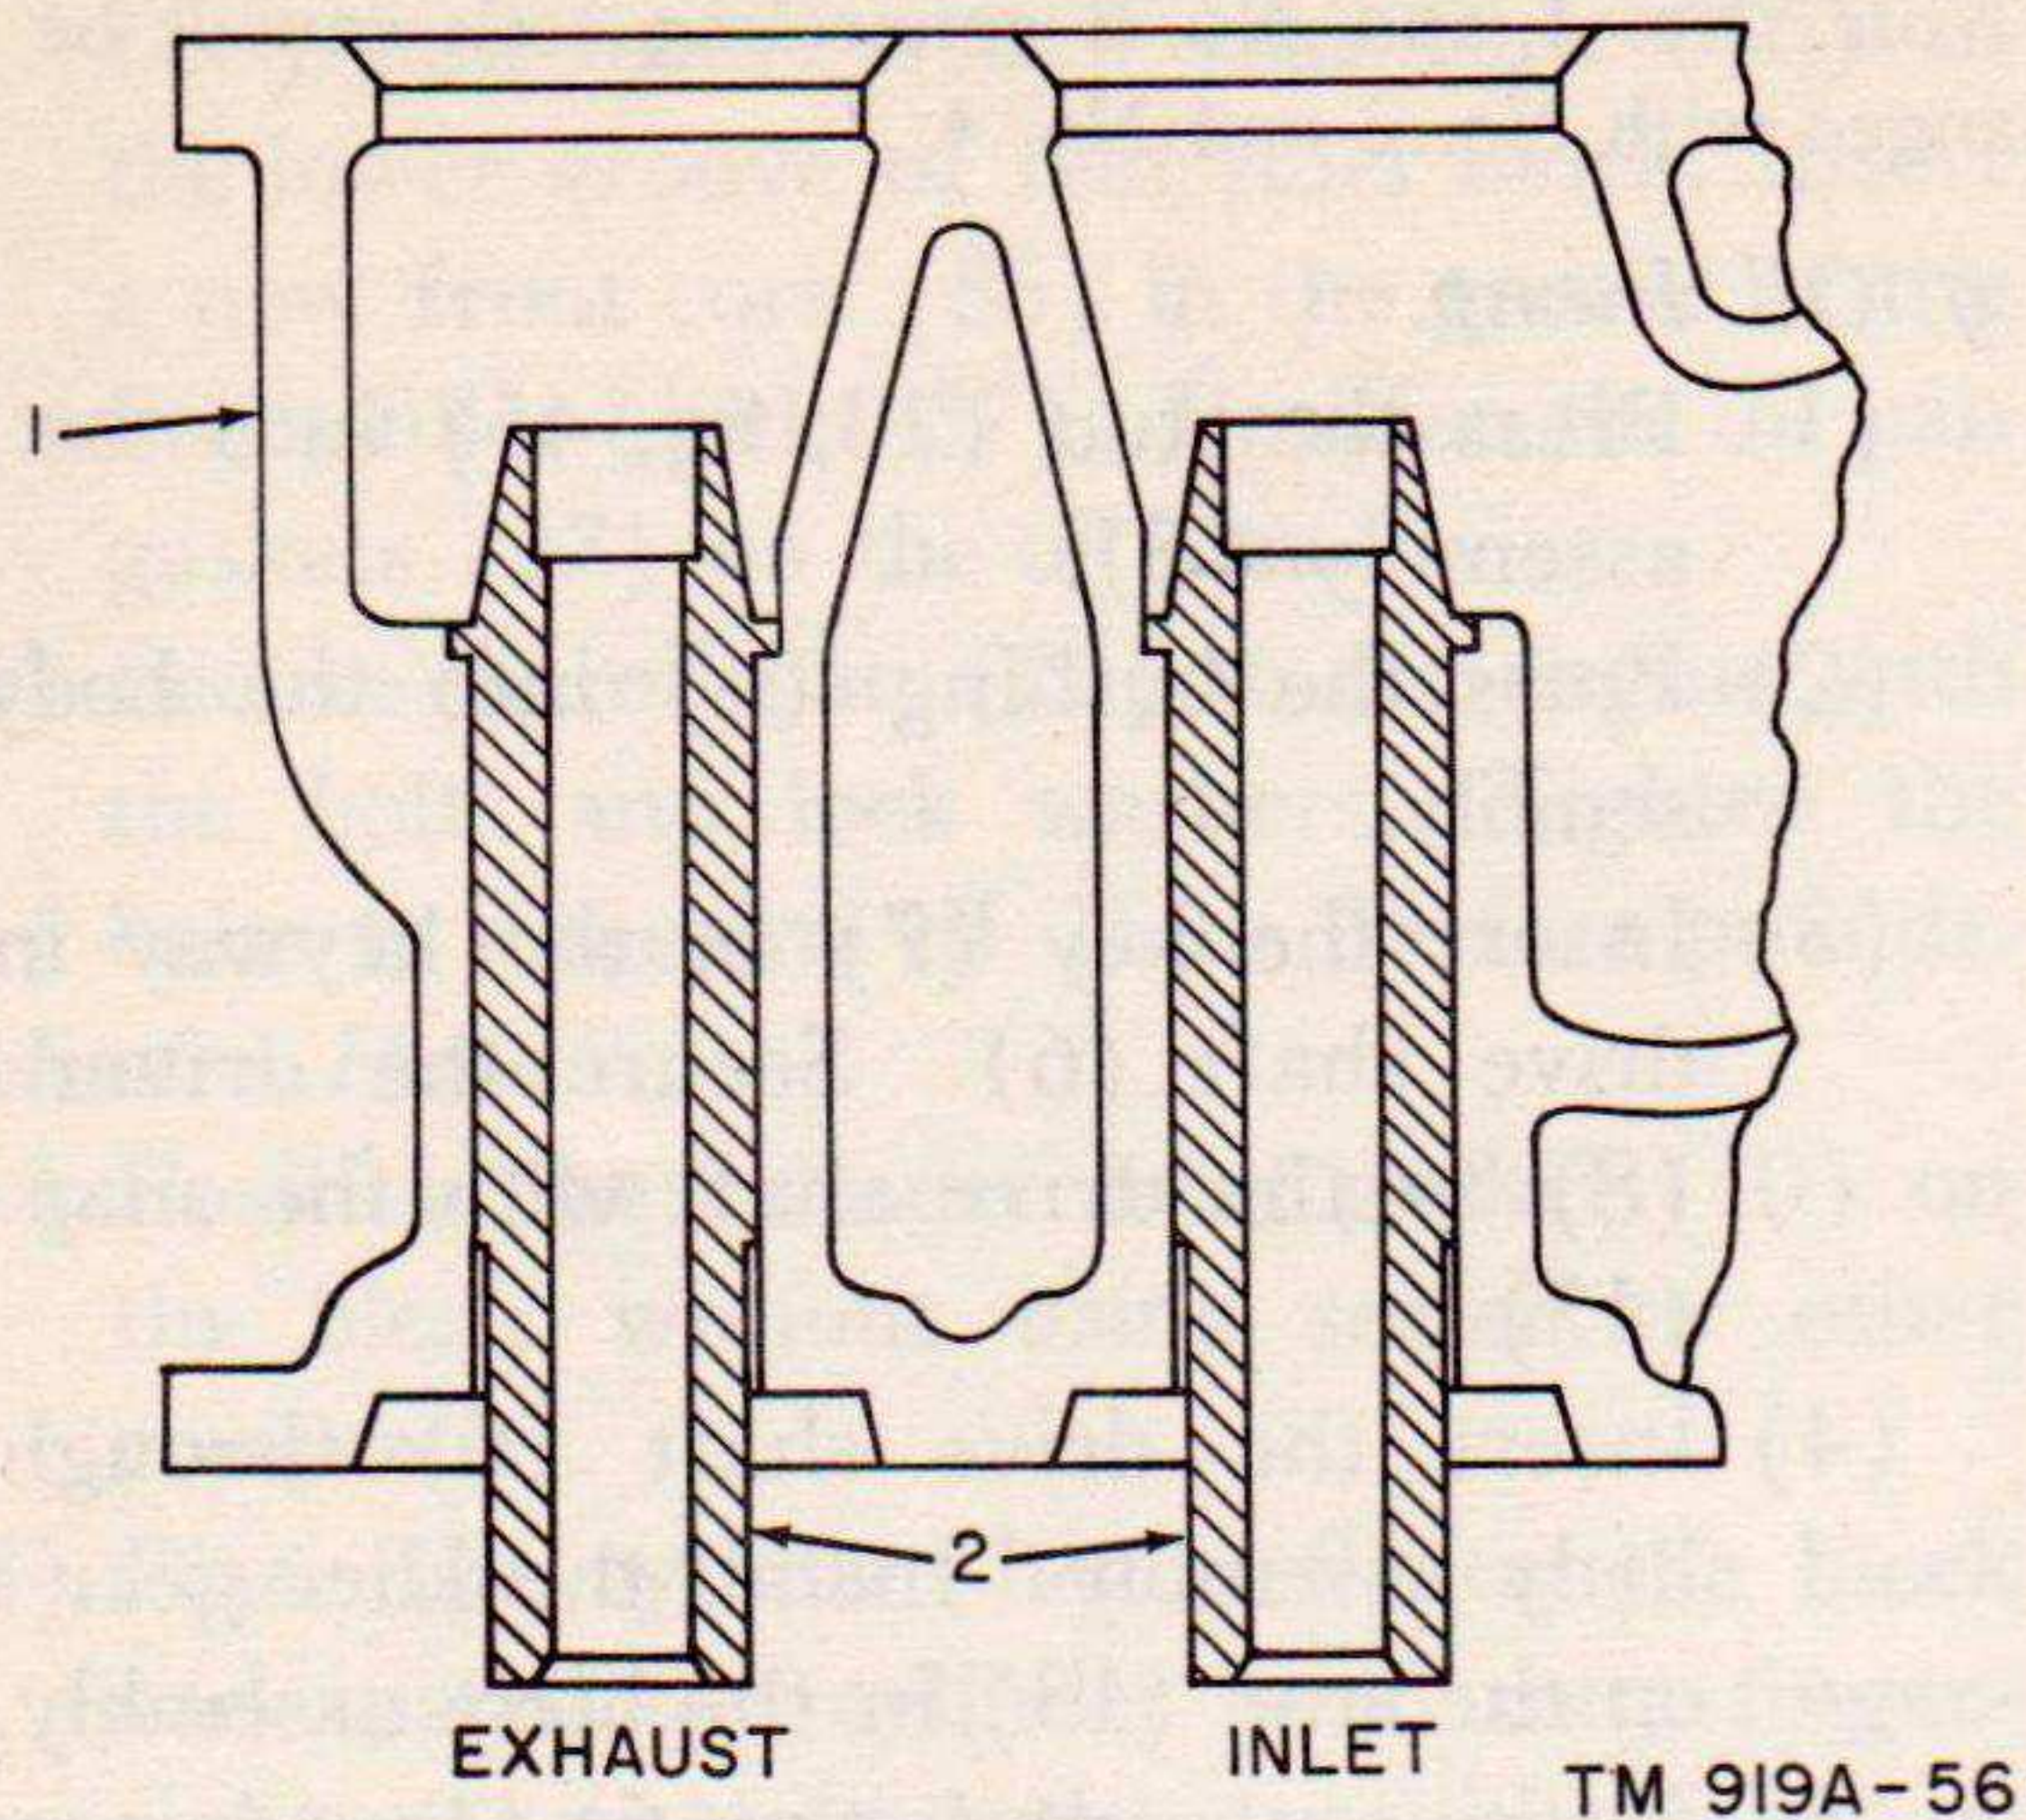

Figure 56. Position of valve guides.
- (1) Replace the valve guides (20) by using a valve guide driver. Drive the valve guides in until they are fully seated in cylinder block as shown in figure 56.